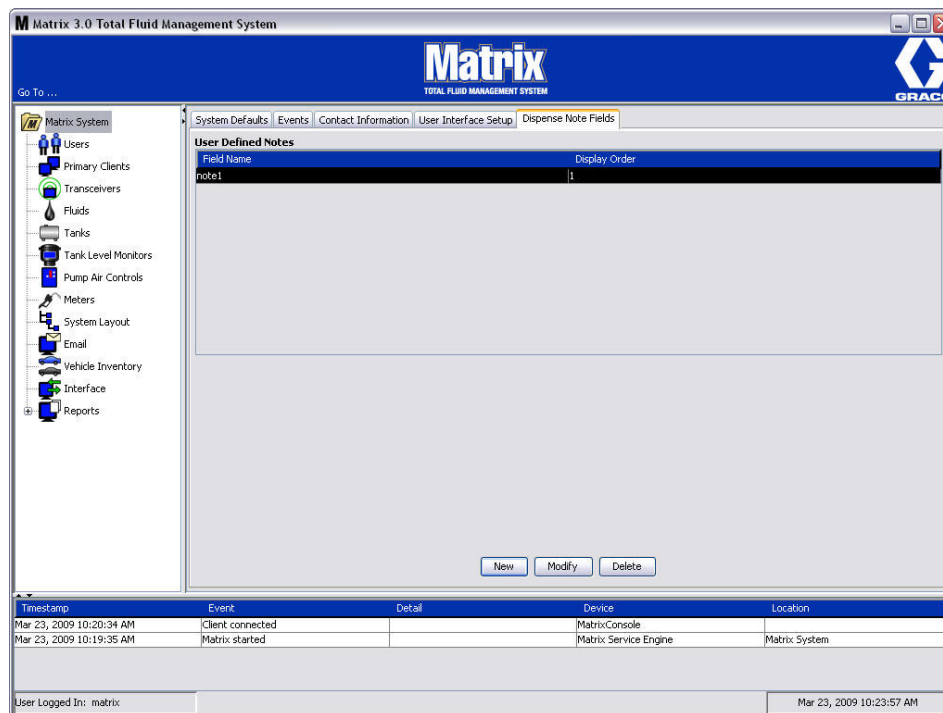
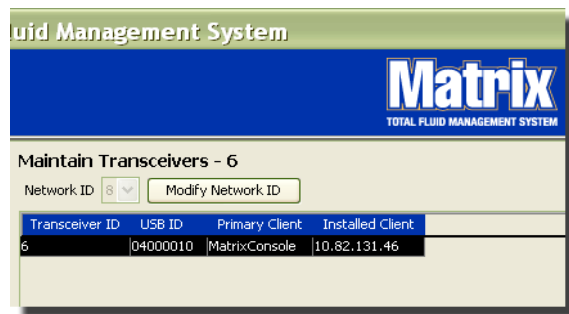

FIG. 83
FIG. 84
The Transceiver screen shown in FIG. 83 is used to:
2. To set the Network ID, select the Modify Network ID button shown in FIG. 84.
4. The Network ID number selected now displays on the top of the Transceiver screen in the Network ID field as shown in FIG. 83 and FIG. 84.